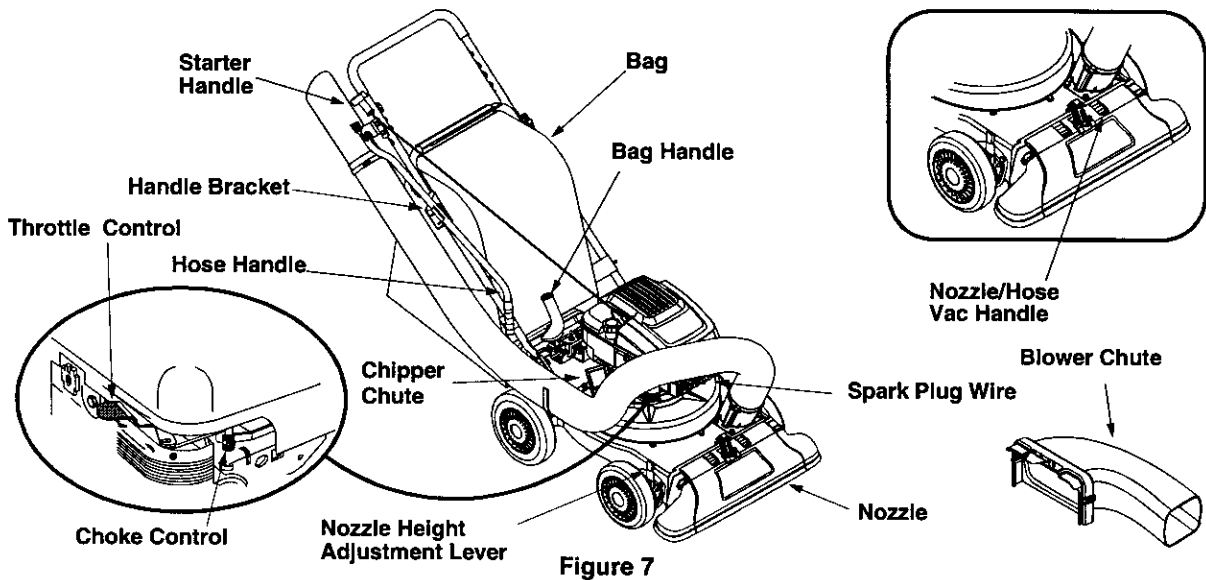

Figure 7
- Connect the hose handle near nozzle end of hose to the side bracket on the upper handle. Refer to Figure 7.
- Snap hose handle to the lower handle bracket to secure in place and lay hose tubing on side bracket hanger next to chipper chute. Refer to Figure 7.
### OPERATING CONTROLS (See Figure 7)